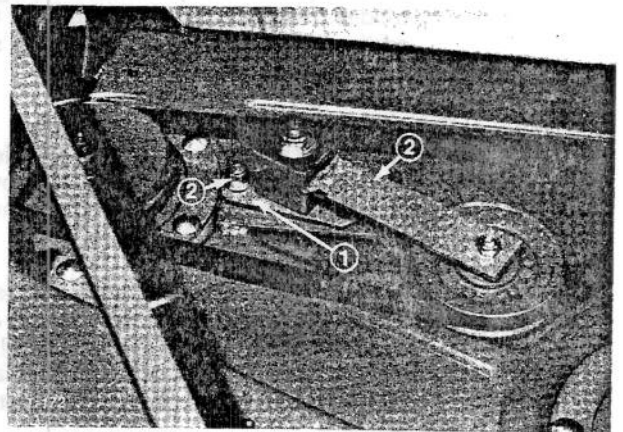

Figure 105
3. Loosen two nuts securing idler plate in place (Fig. 105) and remove old belt from pulleys.
3. Loosen two nuts securing idler plate in place (Fig. 105). Belt tension will be released when nuts are loosened.